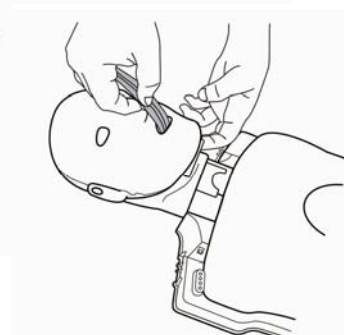

Figure 5
5. Insert the lung bag, folded end, into the mouth of the manikin (Figure 5).